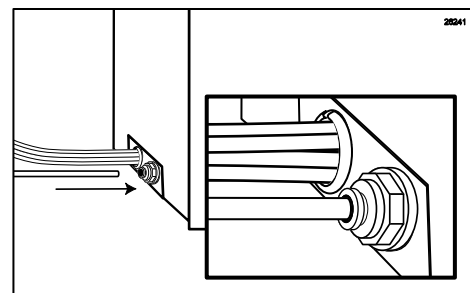

Figure 121
2. Insert one end of the sanitizer tube into the fitting located at the lower back of the cabinet. (See Figure 121.)